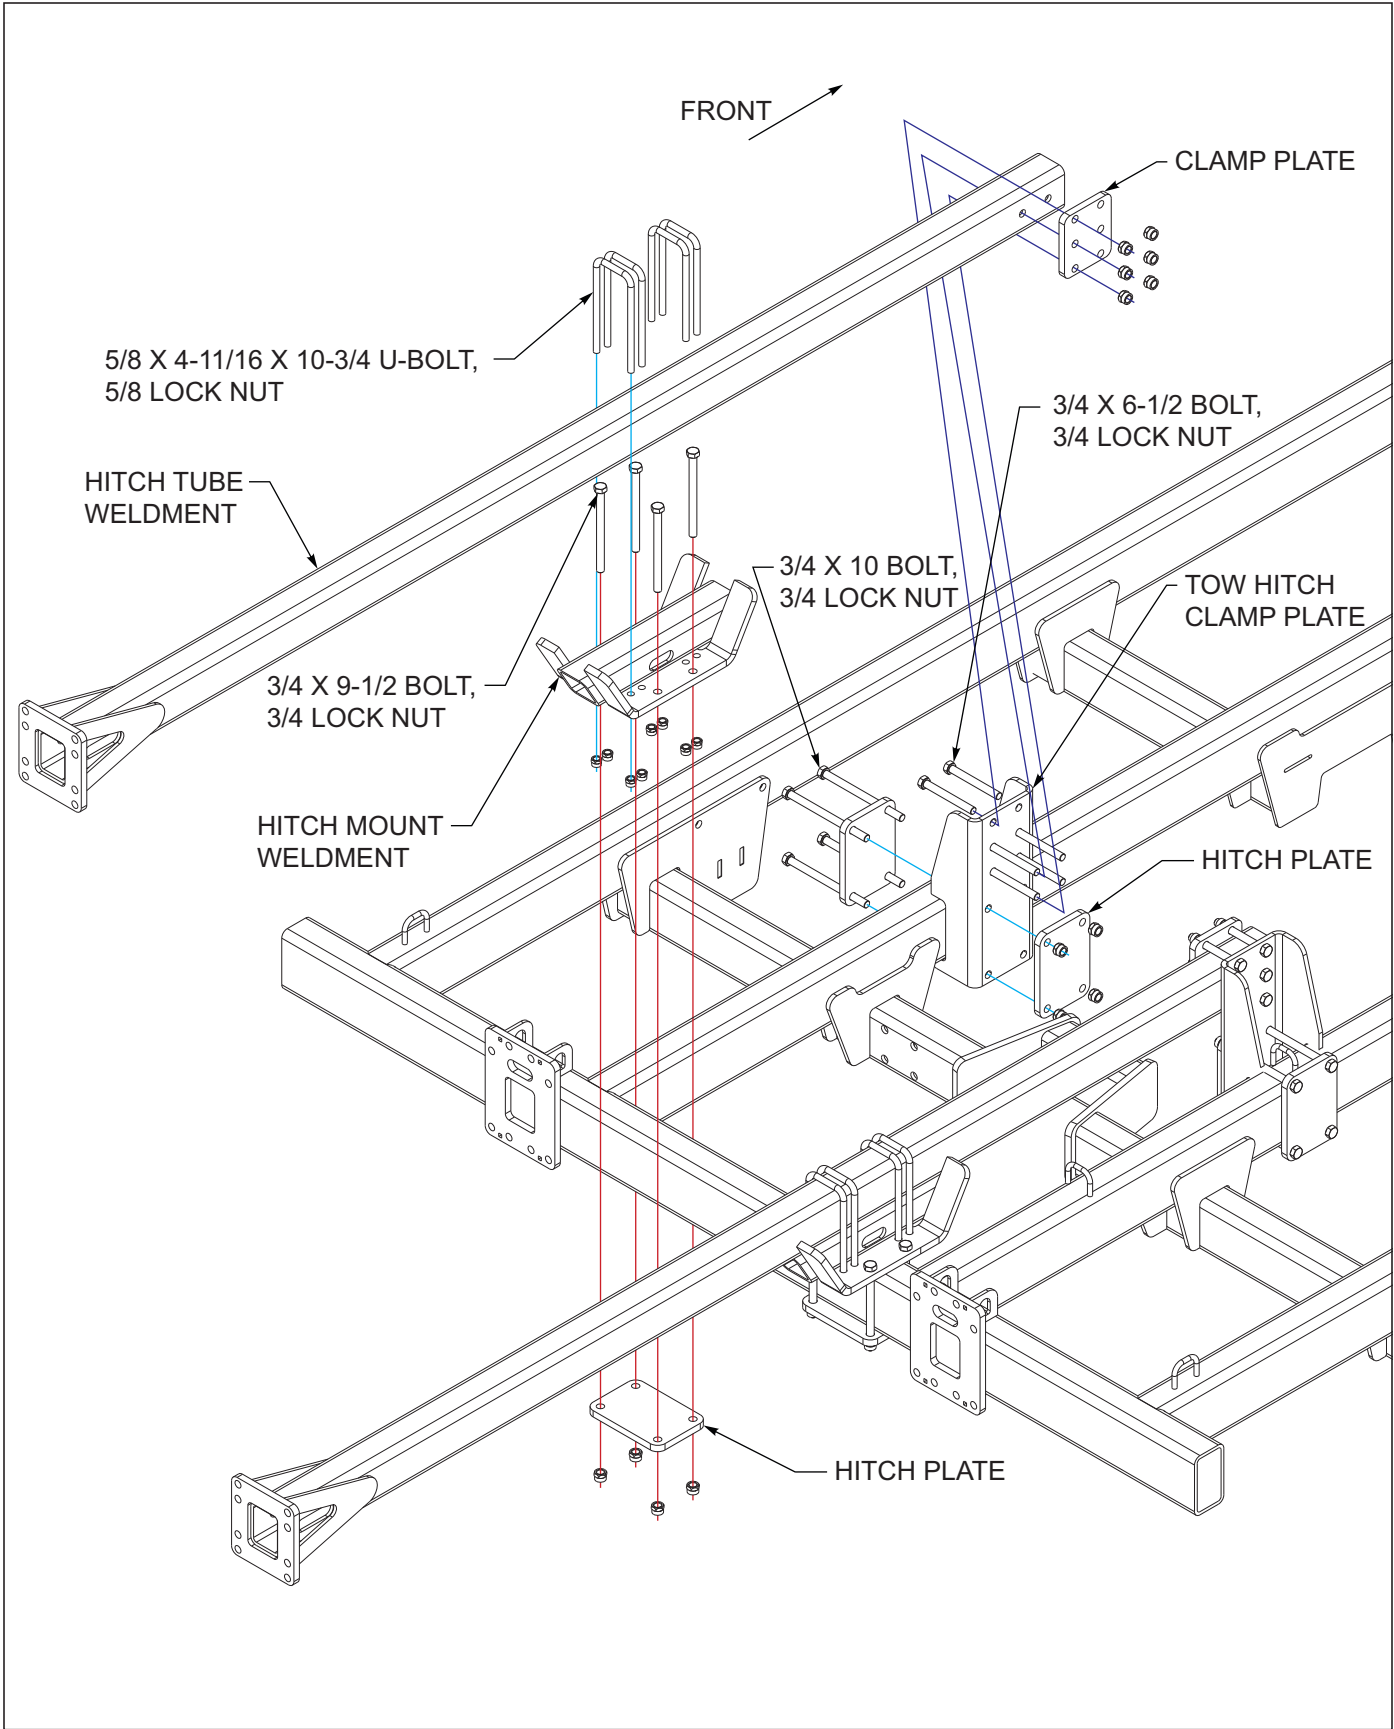

Figure 3-34: Rear Tow Hitch Installation (1 of 2)
1. Attach hitch mount weldments to top side of rear center frame tube, hitch plates below center frame tube with 3/4 x 9-1/2 bolts and 3/4 lock nuts *See Figures 3-34*.